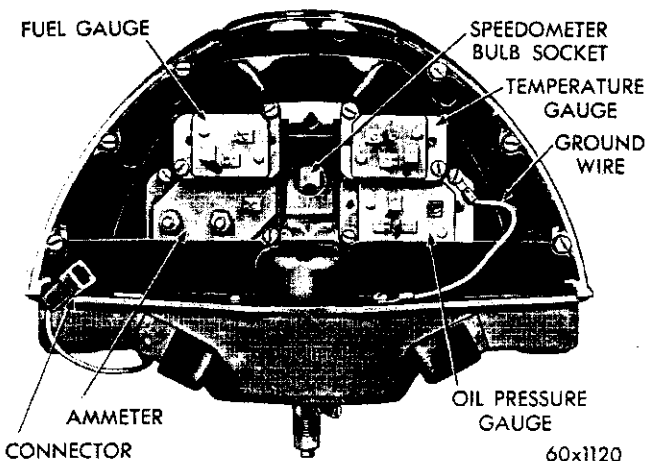

Fig. 122—Instrument Panel Cluster (Back View)
(12) The plastic dome is attached to the cluster by six slotted machine head screws (Fig. 122).
(3) Disconnect the wires at the instrument to be replaced (Fig. 122).
(5) Connect the instrument wires. Connect the instrument panelescent lighting wires. (See Fig. 122.)
(6) Connect the battery ground cable, and test the instrument operation and lighting.